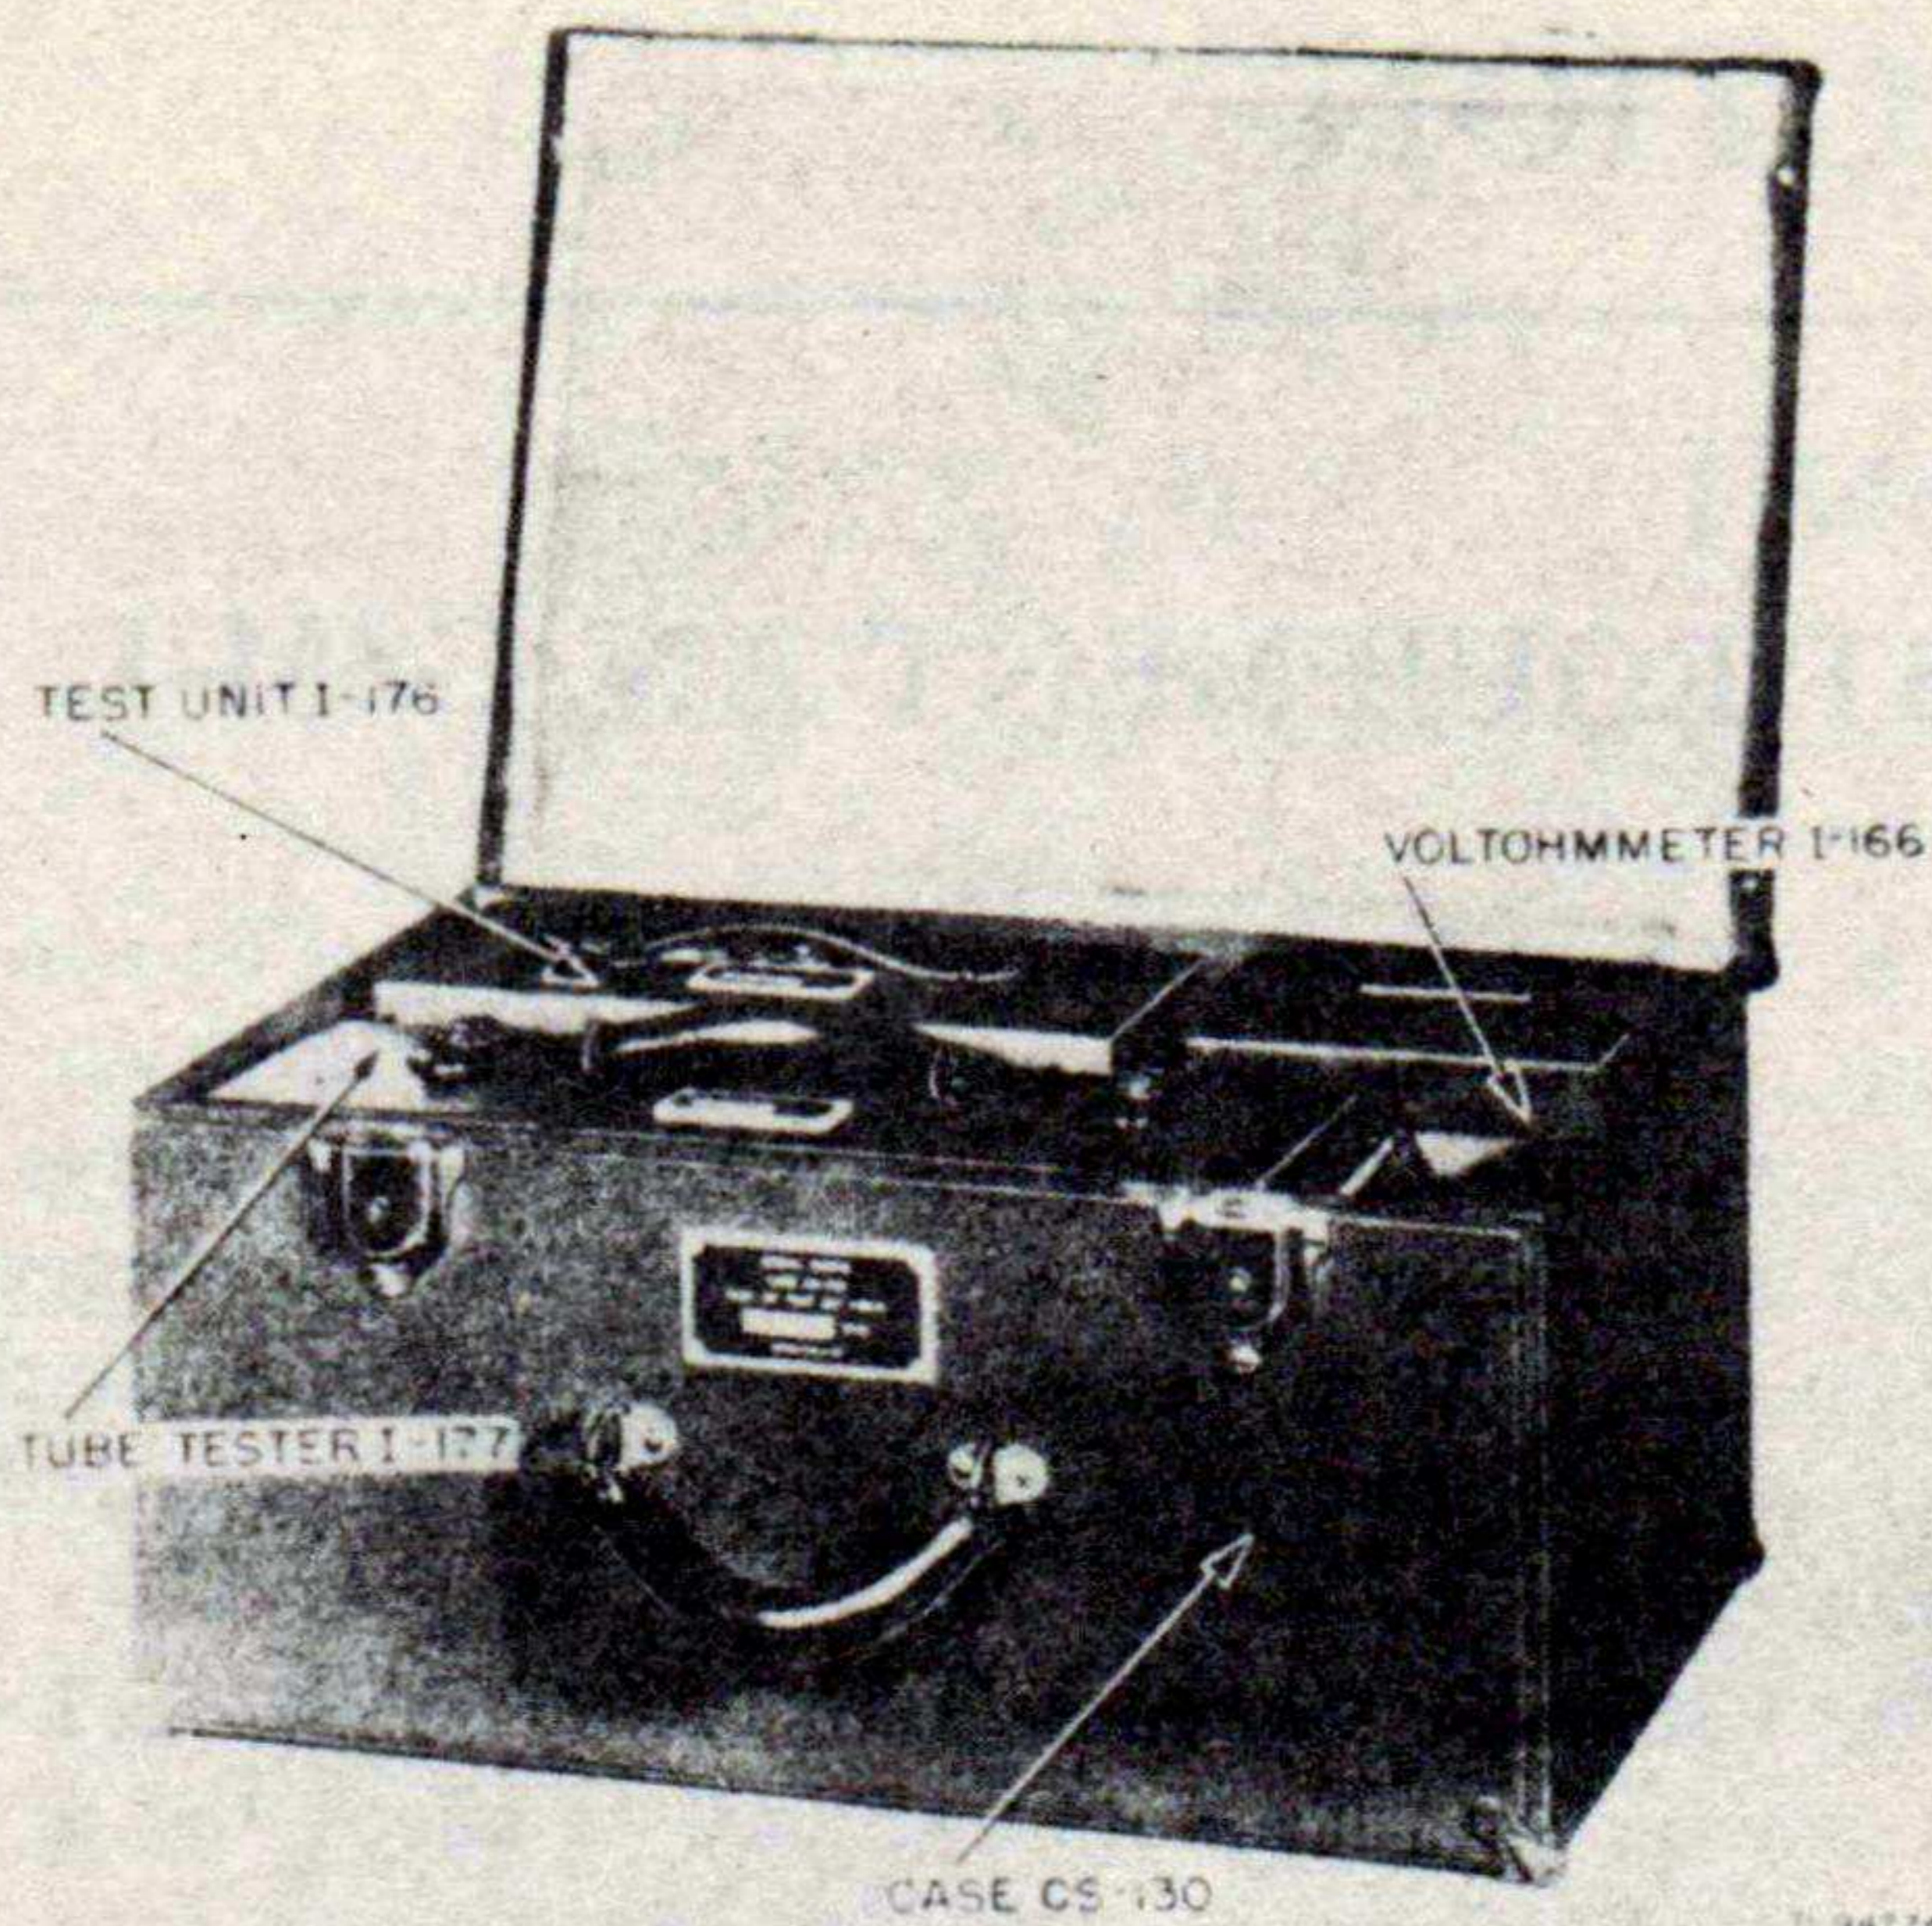

Figure 2. Test Set I-56-K, in carrying case.
(1) Test Set I-56-K consists of Voltohmmeter I-166, Test Unit I-176, and Tube Tester I-177, complete with test leads and Carrying Case CS-130. Figure 2 shows Test Set I-56-K in its carrying case.
(2) Test Set I-56-K is used to make resistance and voltage measurements and to check vacuum tubes used in electrical circuits of test instruments with meter-type indicators. Since no amount of testing and repair can make a meter function